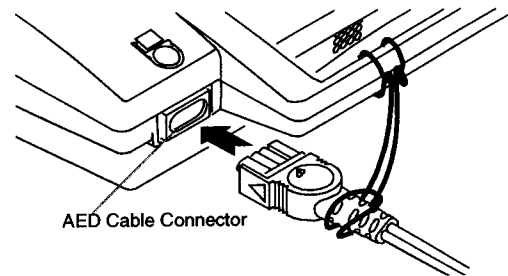

Figure 3 Inserting defibrillation cable into AED
- 3 Insert the cable firmly into the AED until a positive stop is felt (see Figure 3).